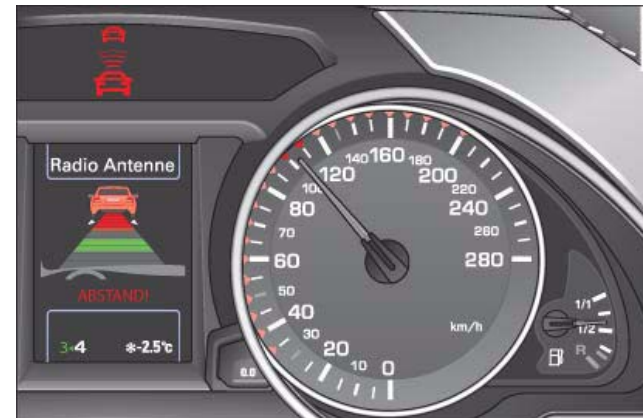

Fig. 147 Instrument cluster: Driver intervention prompt
- A red vehicle symbol will appear in the instrument cluster display ⇒ fig. 147.